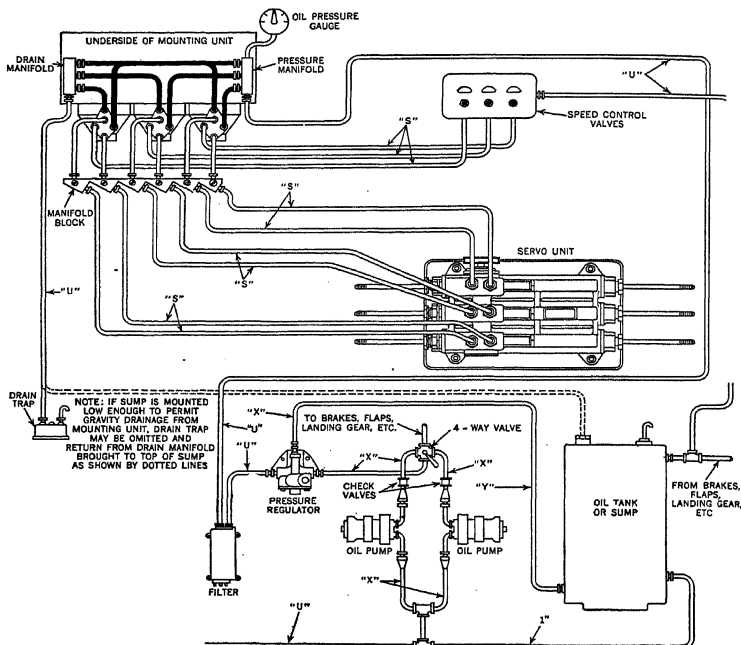
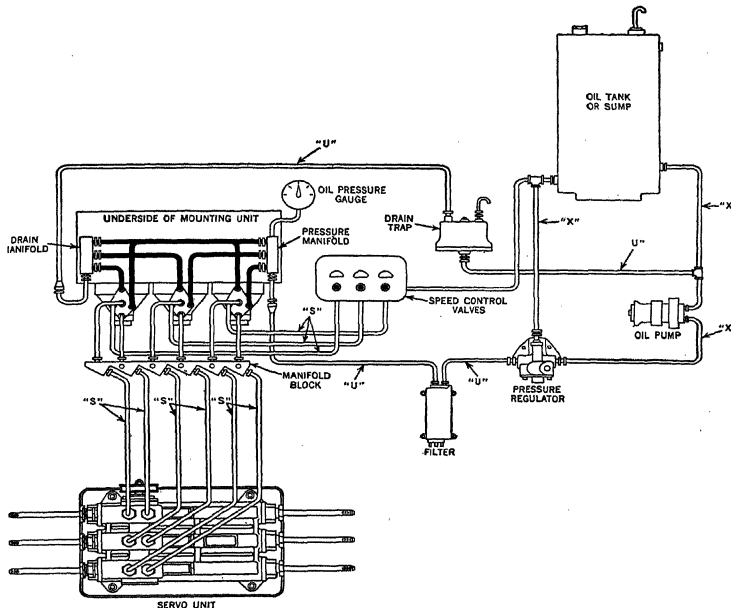

FIG. 83.—Hydraulic system with sump common to both gyro-pilot and other auxiliary equipment.
FIG. 84.—Hydraulic system with single oil pump and drain trap.
*Layout.*—Figures 83 and 84 show the basic hydraulic system layouts. Figure 83 shows a hydraulic system with a sump which is common to both the gyropilot and the airplane's auxiliary hydraulic equipment. Figure 84 shows the use of a single oil pump. Details of the complete equipment can be had from the makers.